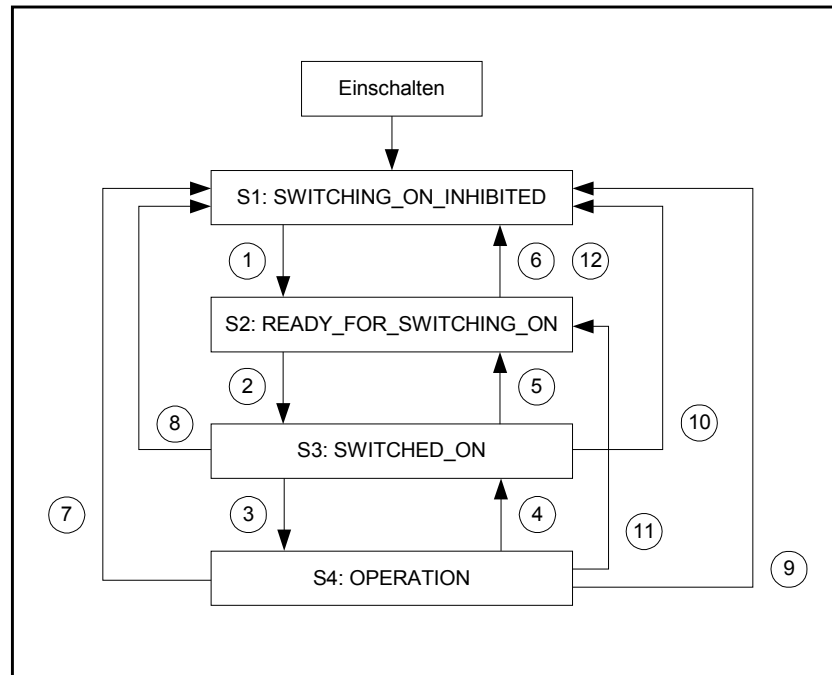

Figure 9.9: Simplified state diagram
The states have been taken over to a large extent from the PROFIdrive specification. PROFIdrive distinguishes between a ramp stop and a quick stop. In firmware 3.0, the controller enabling is deactivated in both cases so that the simplified state diagram shown in Figure 9.9 results.
- 3.) According to the state diagram (Figure 9.9), state transitions 1, 2 and 3 have to be performed.